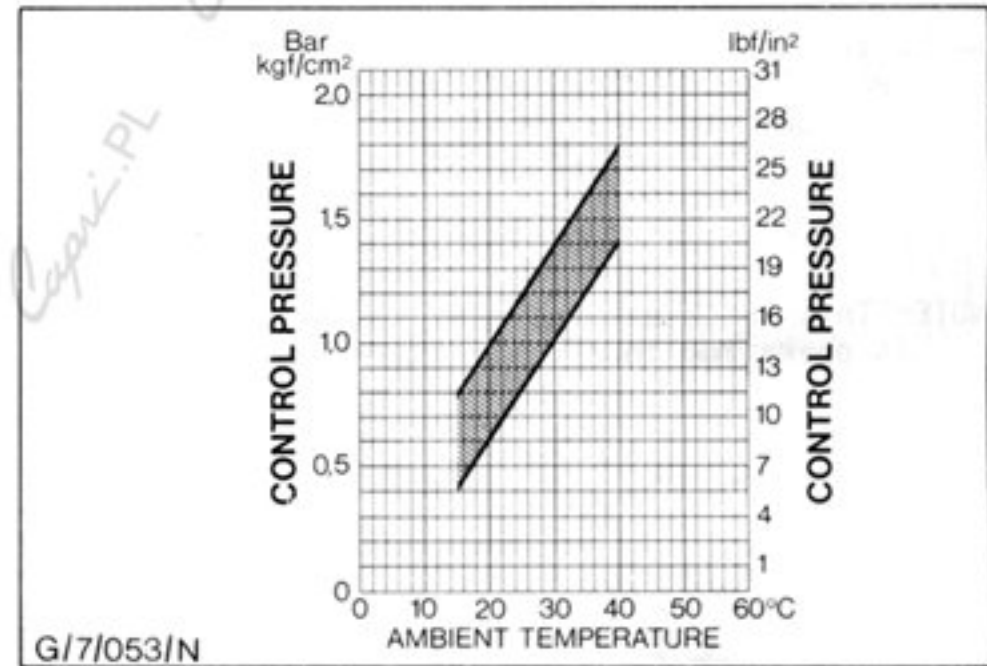

Fig.75. Control pressure specifications graph. (Engine cold)
- (iii) Record pressure reading on gauge and ambient temperature. Compare figures recorded with graph shown in Fig.75.